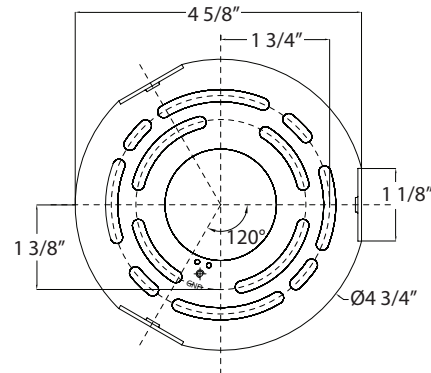

Fig. 3
11. For slope ceiling application, rotate wire at the top of the stem to ensure luminaries is aiming (**Fig. 3**).